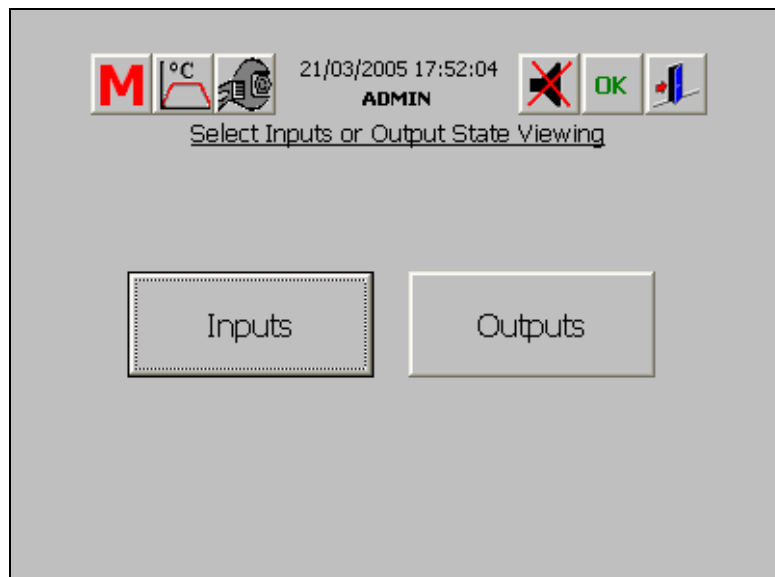

Figure 6-22 Inputs Selection Screen
2. The Inputs/Outputs Selection screen will appear. Click on **Inputs** (Figure 6-22).